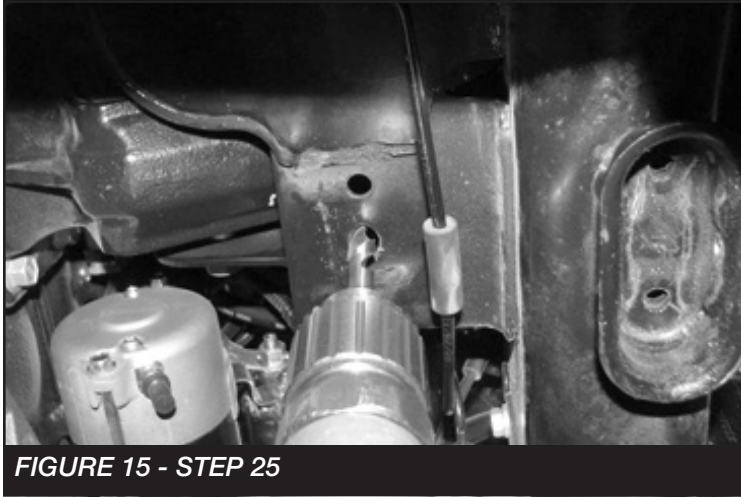

FIGURE 15 - STEP 25
25. Using a 1/2" drill bit, drill out the hole in the factory crossmember inline with the factory bump stop mount. **SEE FIGURE 15**